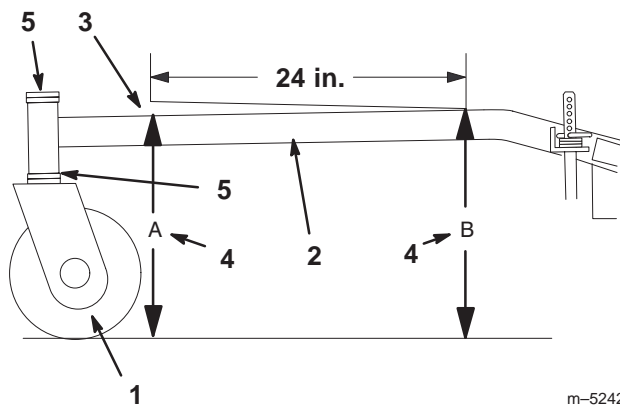

Figure 52
1. Measure out 24 inches on the carrier frame (Fig. 52).
2. Measure carrier frame height at location "A" (Fig. 52).
3. Measure carrier frame height at location "B" (Fig. 52).
4. The height at location "A" must be a 1/4–3/8 in. lower than location "B" (Fig. 52).
5. If the carrier frame is not correct, move caster spacers to make it a 1/4–3/8 in. pitch (Fig. 52). Move spacers from top or bottom to make the correct pitch.